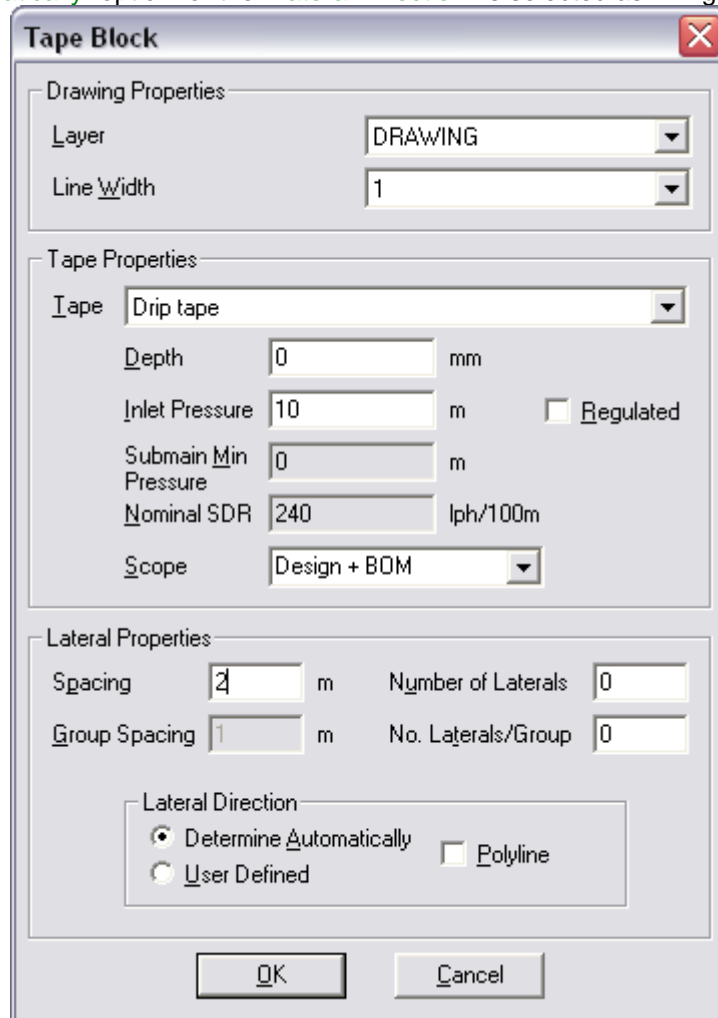

Figure SD 3
- Type in **2m** for the "Lateral Spacing" and leave the "Number of Laterals" as **0**. Make sure the "Determine Automatically" option for the "Lateral Direction" is selected as in Figure SD 3. Click [OK].